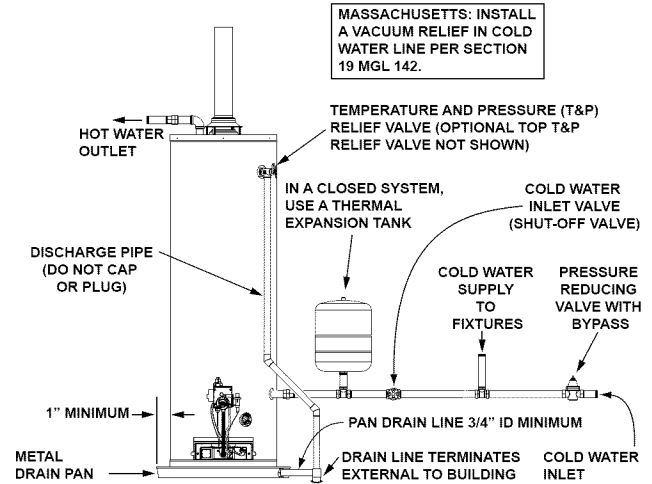

FIGURE 18.
Piping, fittings, and valves should be installed according to the installation drawing (Figure 18). If the indoor installation area is subject to freezing temperatures, the water piping must be protected by insulation.
1. Install the water piping and fittings as shown in Figure 18. Connect the cold water supply (3/4" NPT) to the cold water inlet fitting. Connect the hot water supply (3/4" NPT) to the hot water outlet fitting.